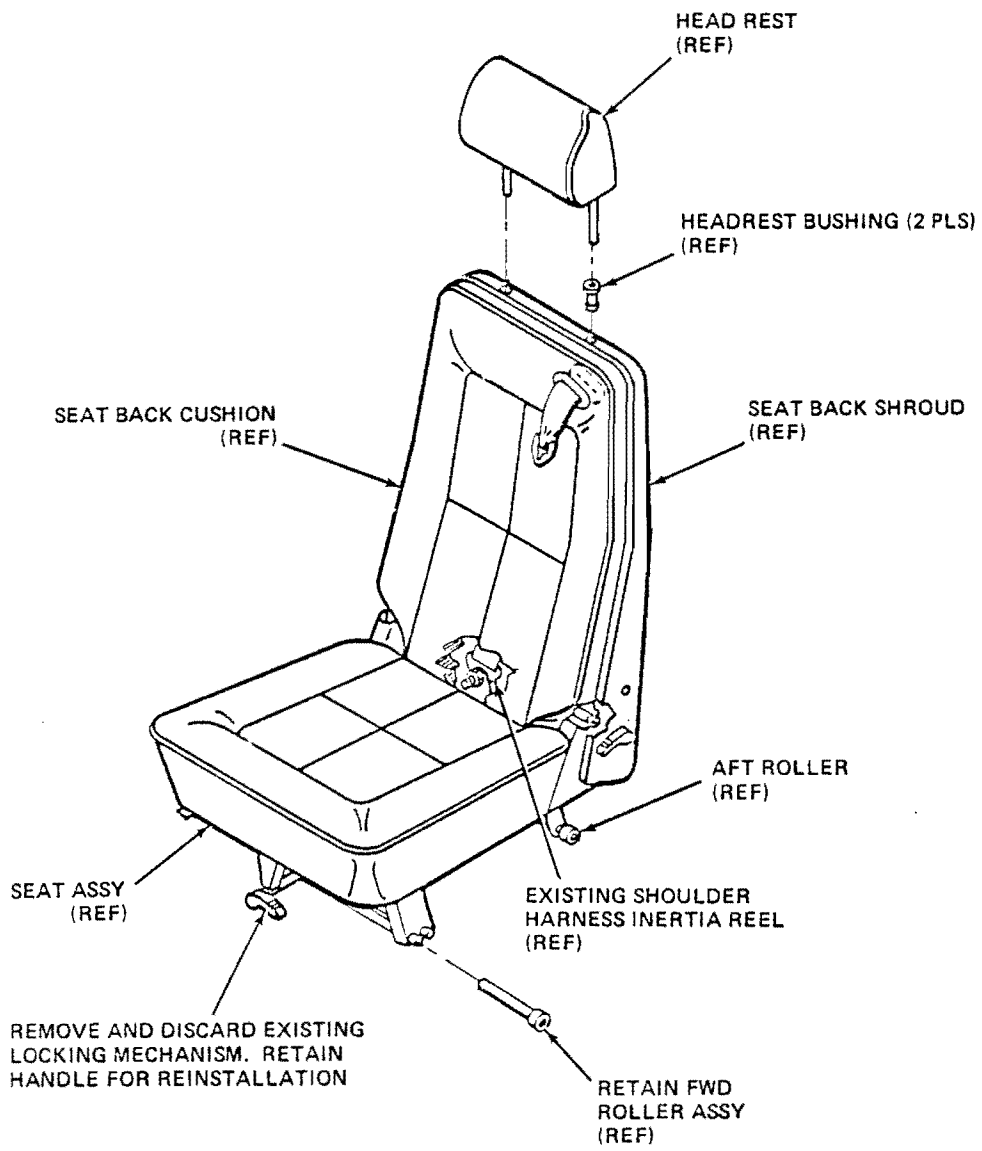

Figure 4.
- a. Remove seat headrest and remove seat back shroud by carefully prying up on plastic headrest bushing flanges (refer to Figure 4).
- c. Remove and discard existing shoulder harness inertia reel assembly and attaching hardware (refer to Figure 4).
- d. Remove seat back cushion by pulling forward on cushion and lifting up (refer to Figure 4).
- g. Remove and discard existing forward seat locking mechanism. Retain handle for reinstallation on new seat locking mechanism (refer to Figure 4).
- c. Remove seat back cushion by pulling forward on cushion and lifting up (refer to Figure 4).